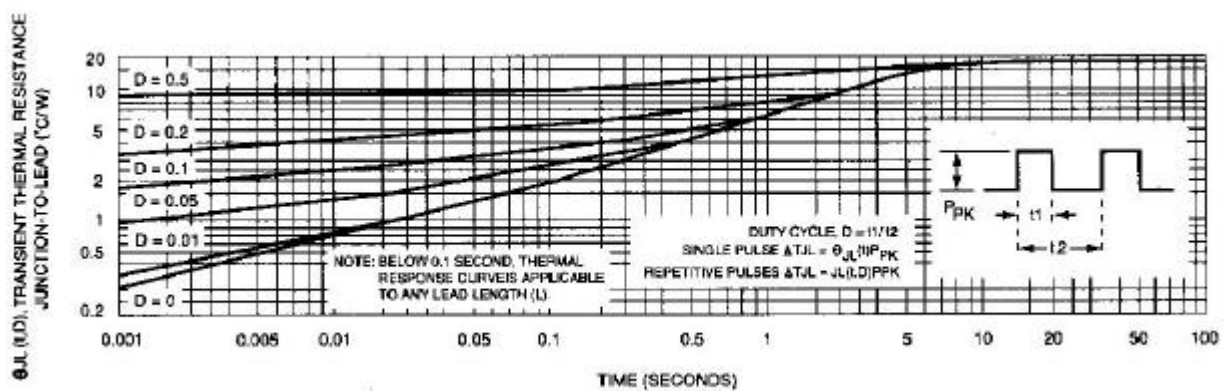
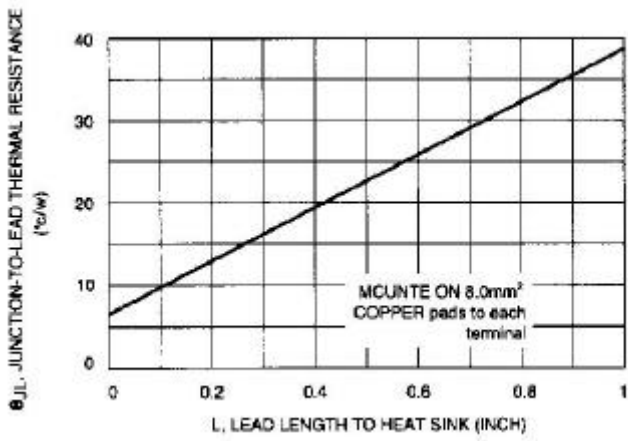
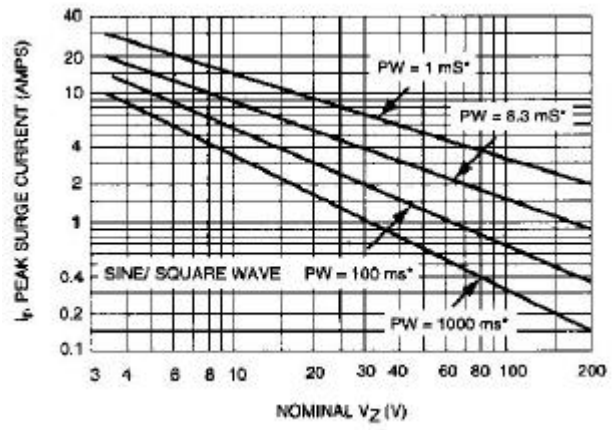
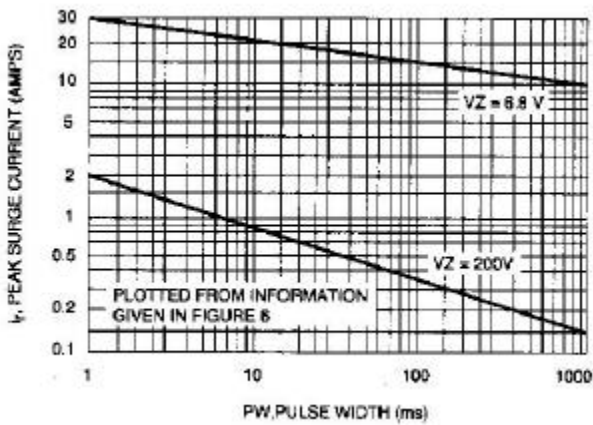

Fig. 3-TYPICAL THERMAL RESPONSE
Fig. 4-TYPICAL THERMAL RESISTANCE
Fig. 5-MAXIMUM NON-REPETITIVE SURGE CURRENT VERSUS NOMINAL ZENER VOLTAGE(SEE NOTE 3)
Fig. 6-PEAK SURGE CURRENT VERSUS PULSE WIDTH(SEE NOTE 3)
3. SURGE CURRENT ( $I_r$ ) - Surge current is specified as the maximum allowable peak, non-recurrent square-wave current with a pulse width, PW, of 8.3 ms. The data given in Figure 5 may be used to find the maximum surge current for a square wave of any pulse width between 1 ms and 1000ms by plotting the applicable points on logarithmic paper. Examples of this, using the 6.8v and 200V zeners, are shown in Figure 6. Mounting contact located as specified in Note 3. ( $T_A=25$  ).
$\theta_{JL}$  is the increase in junction temperature above the lead temperature and may be found from Figure 3 for a train of power pulses or from Figure 4 for dc power.
Data of Figure 3 should not be used to compute surge capability. Surge limitations are given in Figure 5. They are lower than would be expected by considering only junction temperature, as current crowding effects cause temperatures to be extremely high in small spots resulting in device degradation should the limits of Figure 5 be exceeded.